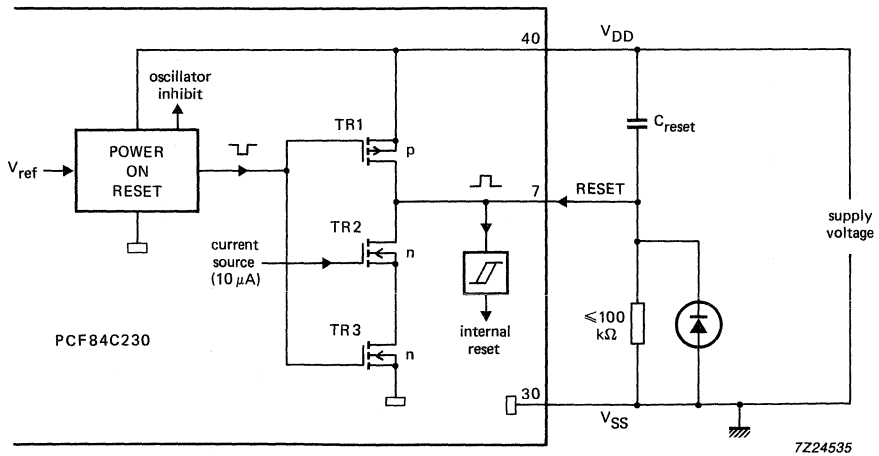

Fig.21 Stretched power-on reset with external components.
To allow an external reset signal to be fed into the PCF84C230, the RESET pin (pin 7) has been configured as an input/output. While a reset condition exists in the detection circuit, the RESET pin is pulled HIGH by transistor TR1 controlled by the reset circuit. When the reset condition is not present, a pull-down current source (TR2) will be activated. TR2 forces the RESET pin LOW, thus removing the reset signal from the microcontroller. Since the level at the RESET pin is detected by the microcontroller, the reset time constant can be stretched by connecting an external capacitor between  $V_{DD}$  and the RESET pin (see Fig.21).
2. If  $V_{DD}$  has a slow rise time then the RESET signal should be stretched by an external RC circuit (see Fig.21 and 22). In the event of a short drop in the supply voltage, the diode path rapidly discharges the capacitor to ensure a reliable power-on reset. To ensure a correct reset, the RESET signal should reach at least 70% of the final value of  $V_{DD}$ . Given that the RESET voltage and  $V_{DD}$  rise exponentially, the above requirement is satisfied when the time constant  $\tau$  of the RESET pulse is  $> 8$  times the time constant of  $V_{DD}$ . If  $V_{DD}$  rises linearly, then a RESET time constant  $> 2$  times the rise time of  $V_{DD}$  is required.